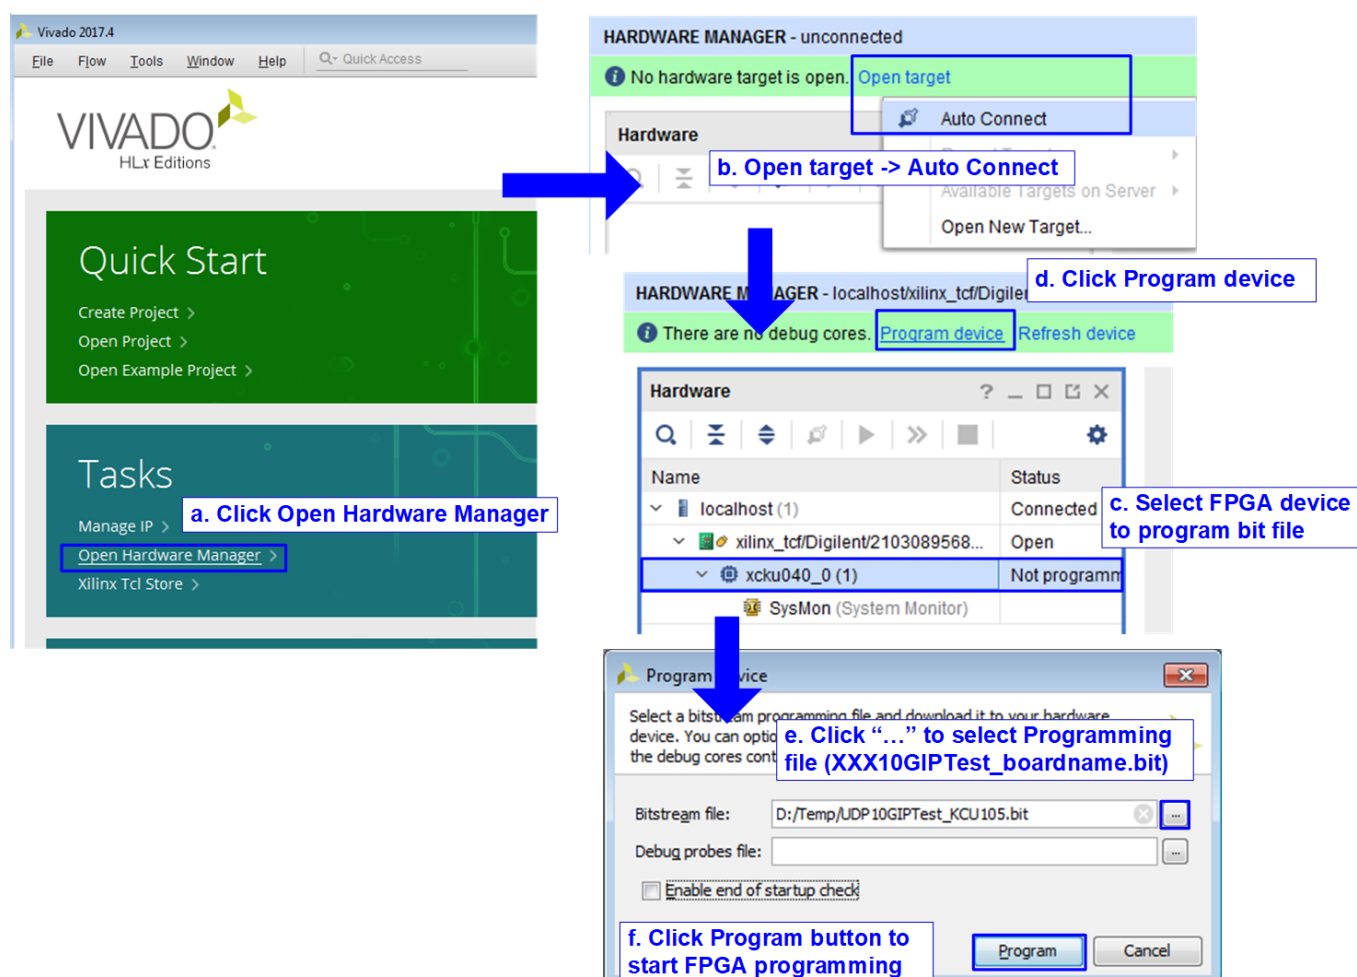

Figure 1-13 Program FPGA by Vivado
- b) For KCU105/VCU118 board, use Vivado tool to program configuration file, as shown in Figure 1-13.